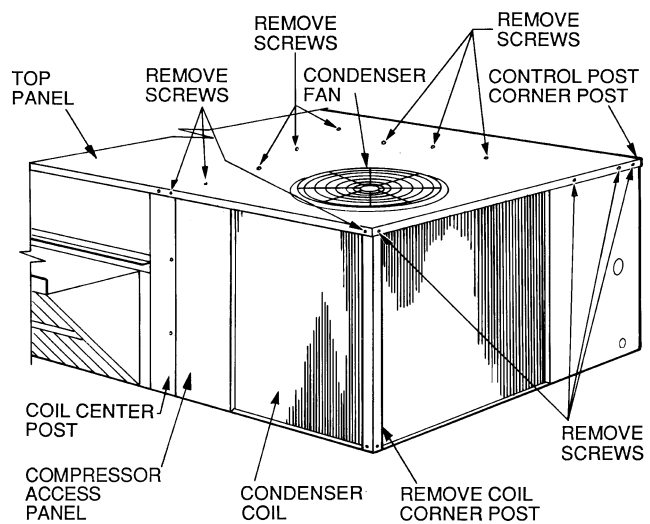
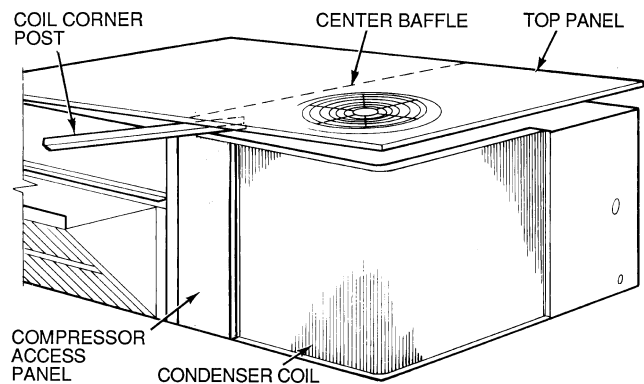

Fig. 38 — Cleaning Condenser Coil (50TFF007)
Fig. 39 — Propping Up Top Panel (50TFF007)
3. Remove condenser coil corner post. See Fig. 38. To hold top panel open, place coil corner post between top panel and center post. See Fig. 39.